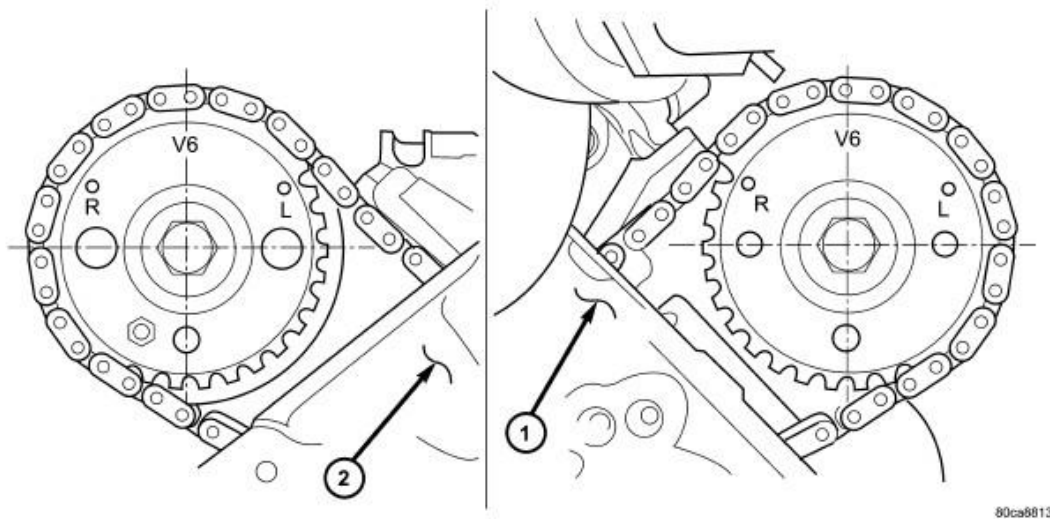
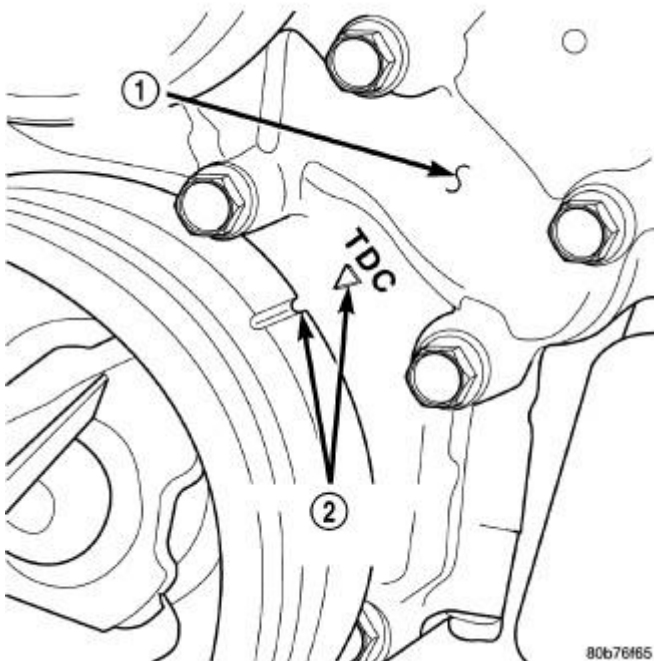

Fig. 159: Camshaft Sprocket V6 Marks (#1 TDC, Exhaust Stroke)
Fig. 160: Timing Chain Cover & Crankshaft Timing Marks
5. Rotate engine until the timing mark on crankshaft damper (2) aligns with TDC mark on timing chain cover (2) and the camshaft sprocket "V6" marks are at the 12 o'clock position (No. 1 TDC exhaust stroke). Refer to **Fig. 159**. Refer to **Fig. 160**.